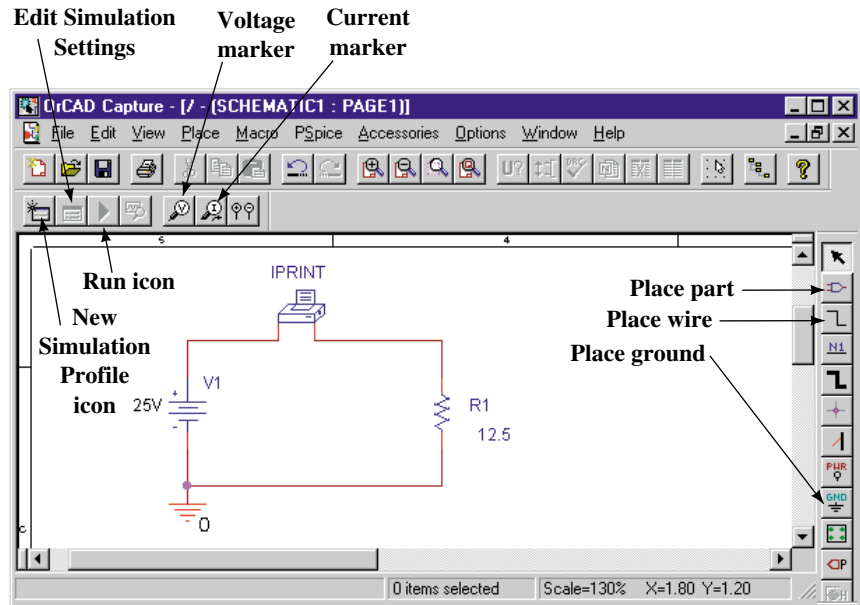

FIGURE 4-30 OrCAD PSpice simulation of Figure 4-27. Note that PSpice uses V for sources instead of E , although you can change this if you wish.
- All components have default values that need to be changed. First, consider the resistor. Its default value is $1k\Omega$. To change it, double click the 1k value (not the resistor symbol), type **12.5** into the Value box, and then click OK. Similarly, double click the IPRINT symbol, click the Parts tab (bottom of screen) in the Properties Editor, then scroll right until you see a cell labeled DC. Type **yes** into the cell and click Apply. Close the editor by clicking the \times box in the upper right-hand corner of the Properties Editor window. This returns you to Figure 4-30.
- Click the New Simulation Profile icon (Figure 4-30). Enter a name (e.g., **Figure 4-30**) in the Name box. Click Create. A Simulations Setting box opens. Click the Analysis tab. From the Analysis type list, select DC Sweep. From the Options list, select Primary Sweep. Under Sweep variable, choose Voltage source. In the Name box, type the name of your source. (It should be **V1**. Check your schematic to verify.) Click the Value list button, type **25V** into the box, and then click OK. (This sets the voltage of your source to 25 V but it does not update the screen display. If you want to update the value on your screen, double click the default value (i.e., 0V, not the battery symbol), type **25V** in the Value box, and click OK.) Click the Save Document icon to save your work.